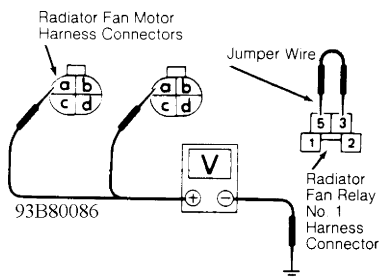

Fig. 42: Testing Radiator Fan Low Speed Circuit (Maxima VG30E, Step 1)
3) Measure voltage between ground and each radiator fan motor harness connector terminal "a" (White/Green wire). See Figs. 42 and 43. Battery voltage should be present. If battery voltage is present, go to next step. If battery voltage is not present, check Gray in-line fusible link located near positive battery terminal. Replace as necessary. Check Red fusible link located in fusible link box at engine side of battery. Replace as necessary. If both fusible links are okay, repair open in White/Blue wire or connectors between relay and fusible link.